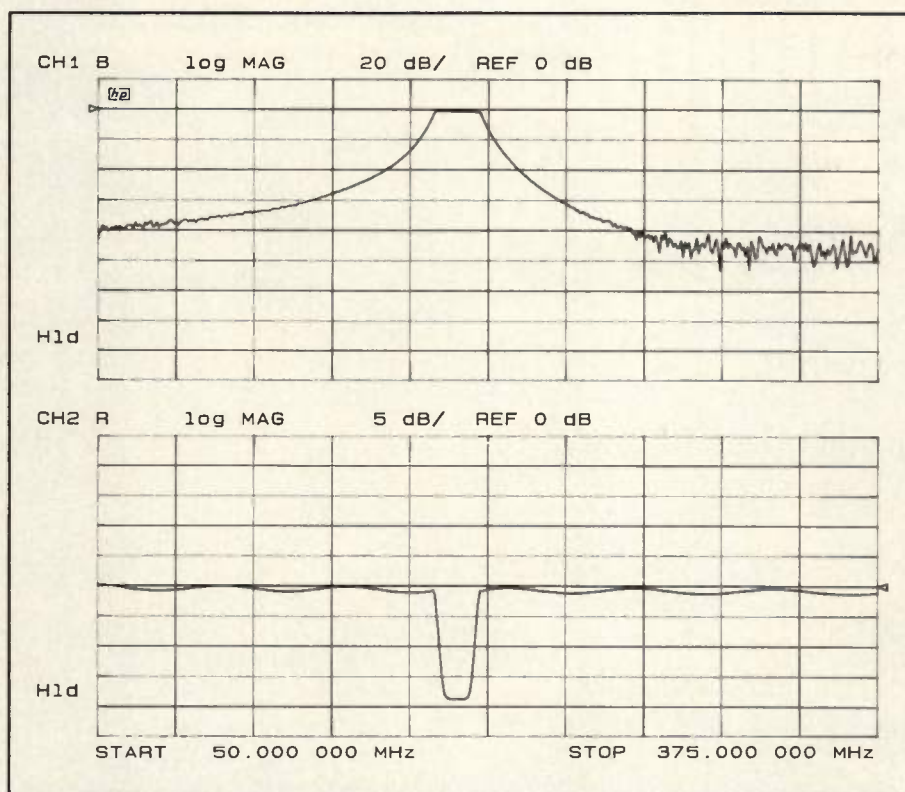
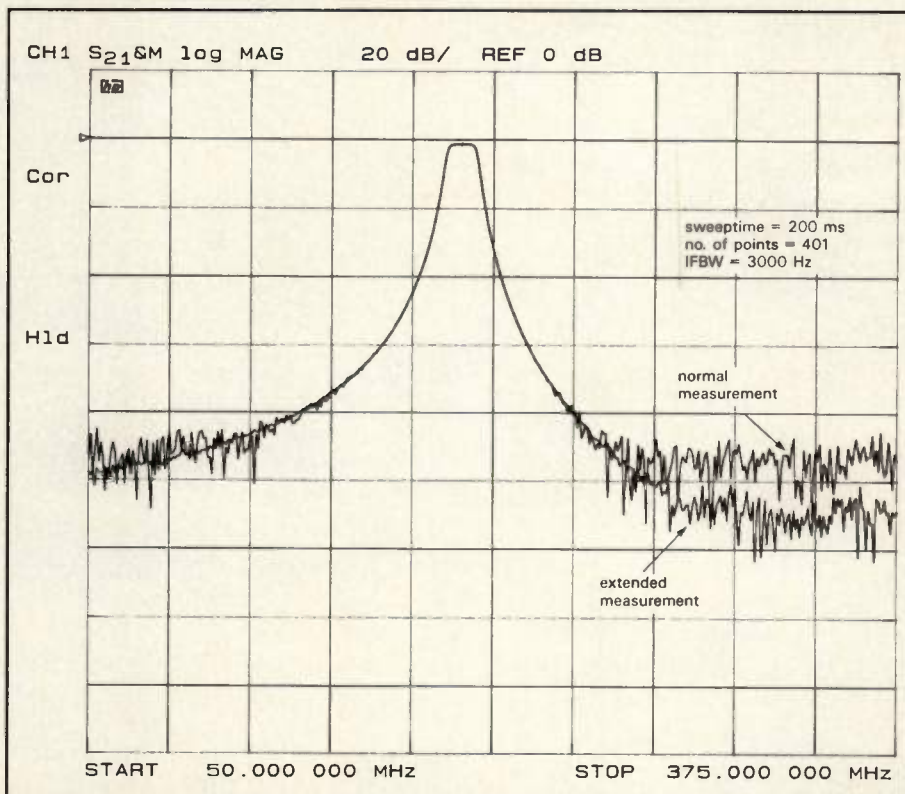

Figure 4. Transmitted (B) power and reference (R) power for measurement made with extended setup.
Figure 5. Transmission measurements made on filter showing the increase in dynamic range.
The resulting transmitted and reference power levels are shown in Figure 4. The variation in reference power is roughly the extension in dynamic range. Figure 5 shows a comparison of a non-extended measurement with an extended measurement. The amount of extension depends on the loss (L) and coupling (C) of the test set, as well as amplifier gain. Typically, 15 dB extension in dynamic range can be obtained when using the HP 85046 test set. (For frequencies below passband, device rejection is not low enough to show extended test system noise floor.)
While an increase in system dynamic range is always welcome, it is often more desirable to maintain the same dynamic range but with a faster measurement time. For example, if 100 dB of dynamic range is needed to measure a filter, the HP 8753 and a test set alone can make the measurement, but the receiver bandwidth must be narrowed to 10 Hz. For the measurement in Figure 5, this would translate to a sweep time of nearly 42 seconds. By using the extended system, the same 100 dB measurement could be made with a receiver bandwidth of 3000 Hz and a sweep time of 0.2 seconds. The amount of speed improvement depends on start and stop frequencies and on which calibration is used.